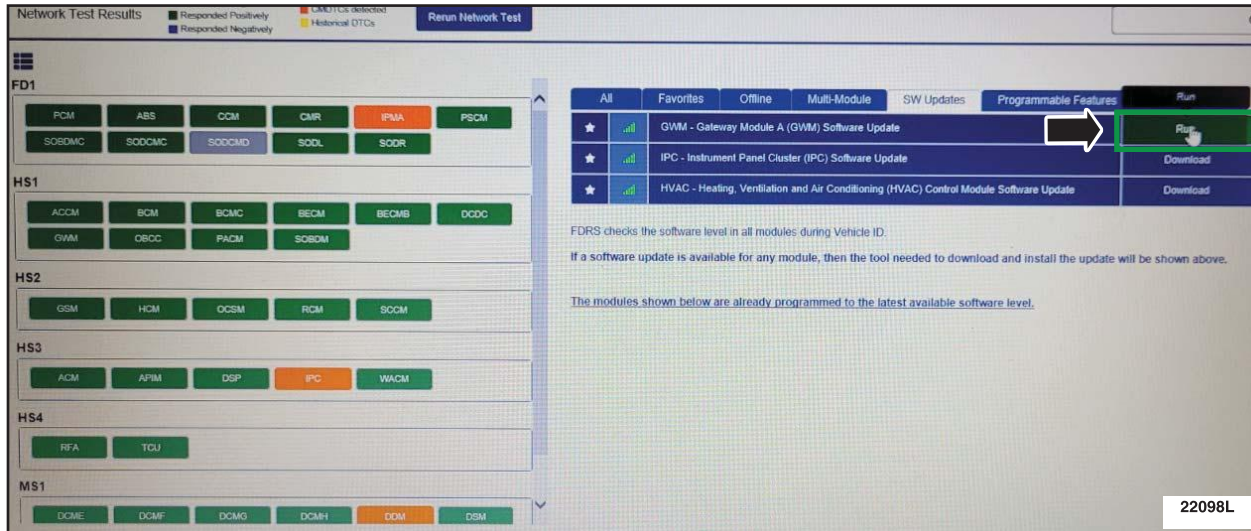

FIGURE 6
9. Click RUN to start the GWM update. See Figure 6.